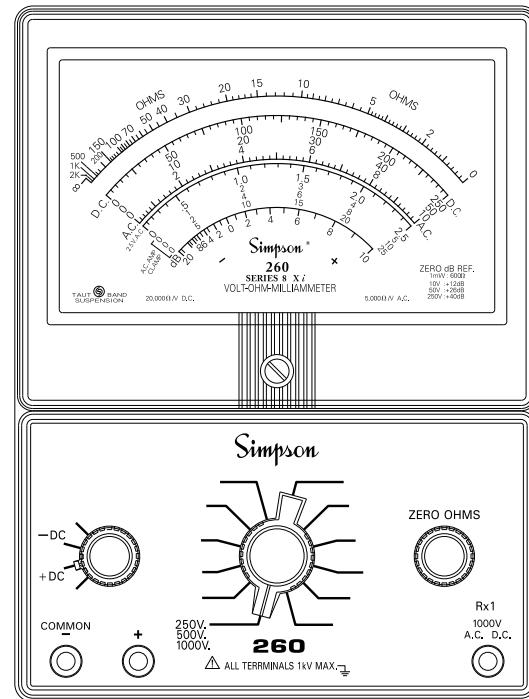

Figure 4-2. Jacks and Switch Positions for Measuring DC Voltage, 0-250 Ranges
- a. Set the function switch at +DC (Figure 4-2).